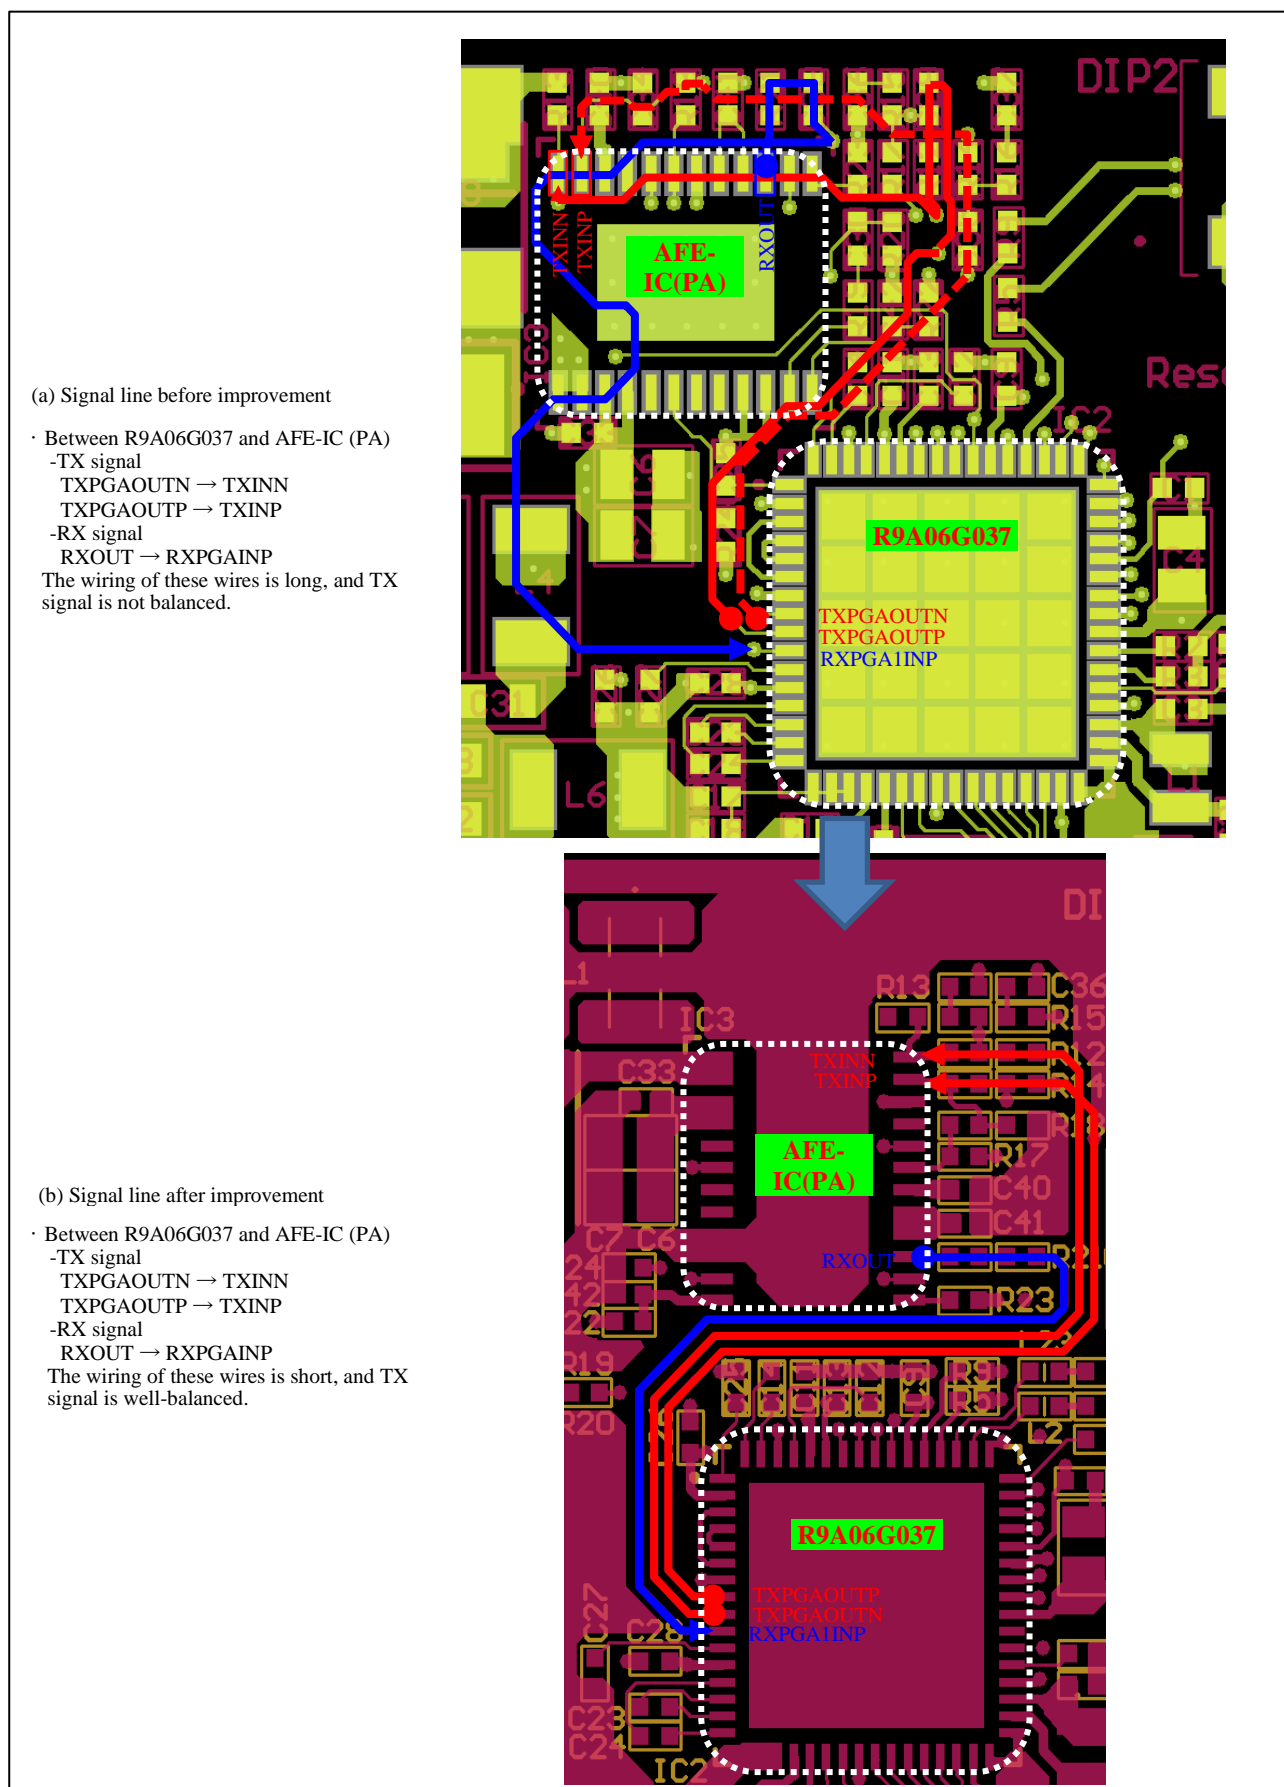

Figure 2-8 Example of routing the TX / RX signal line between R9A06G037 and AFE-IC
- The TX / RX signal line between R9A06G037 and AFE-IC should be the shortest possible and balanced wiring. (Figure 2-8 shows an example of routing the TX / RX signal lines)
The following Figure 2-8 is shown as an example of connecting the TX / RX signal lines.